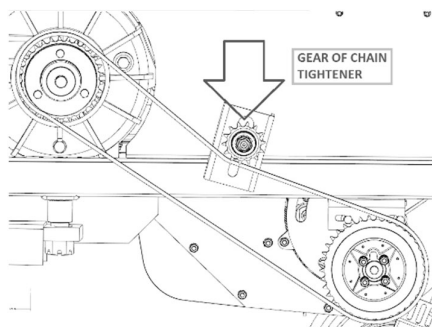

Figure 48: Spacing between lama tips
- Spacing between hayfork lamas are set to be 9-10 cm and chain is fastened (Figure 48). Later, chain is tightened by chain tensioner sprocket.